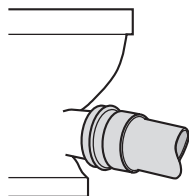

Fig.34c Connecting pan spigot
**Step 4** – Push together (Fig.34c)